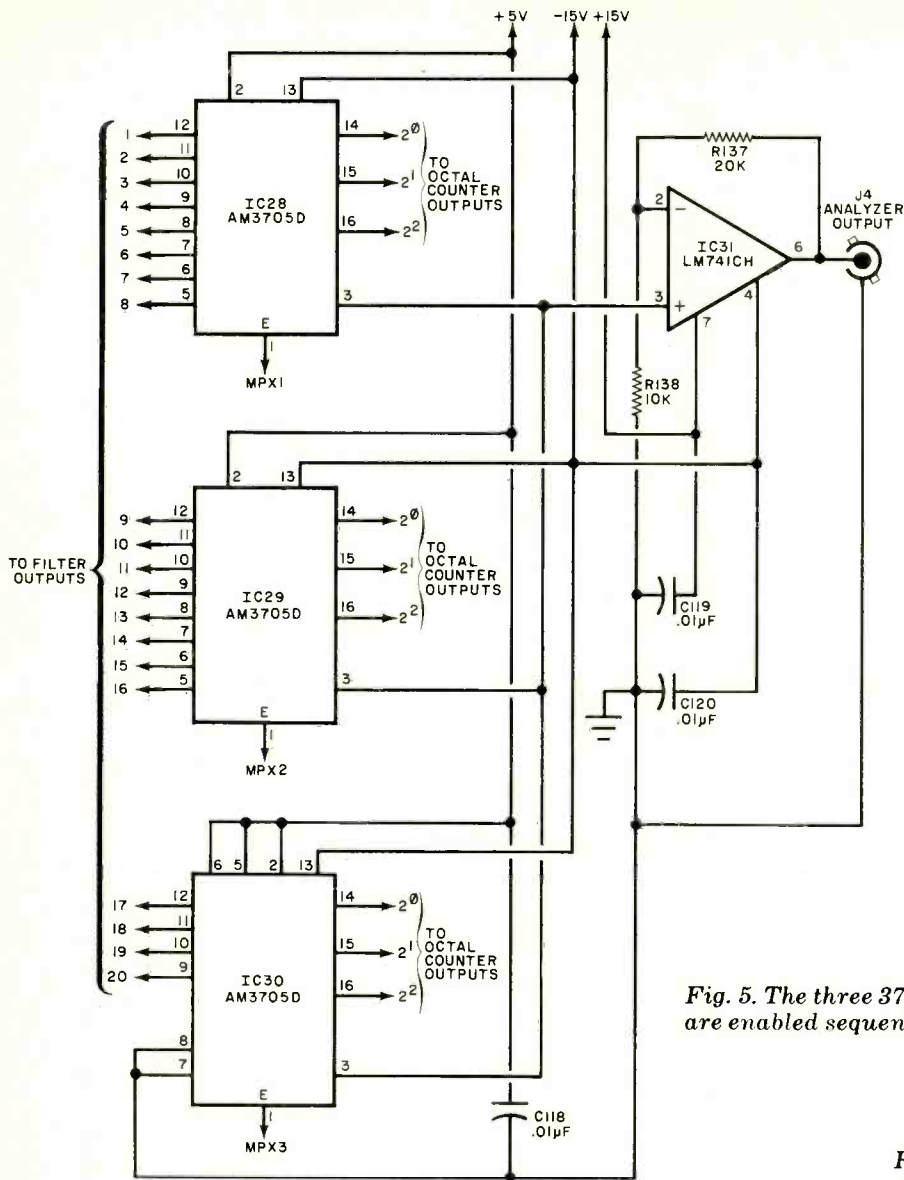

Fig. 5. The three 3705 multiplexer IC's are enabled sequentially.
Clock pulses are applied to IC24, a 7490 decade counter wired to count from 0 to 7, then reset to 0 on the eighth clock pulse. Therefore, a total of eight different output states on three data lines (20, 21, 22) are available. These outputs allow selection of any one of eight FET gates in a 3705 PMOS IC multiplexer. All required decoding circuitry is on the 3705 chip. Of course, twenty channels are needed, not just eight. This is why IC26 and IC27 (7490 and 9301, respectively) are employed. The multiplex circuit is shown in Fig. 5. Each 3705 (three required for 24-channel capacity) has an enable line (E). This allows sequential multiplexer activation.